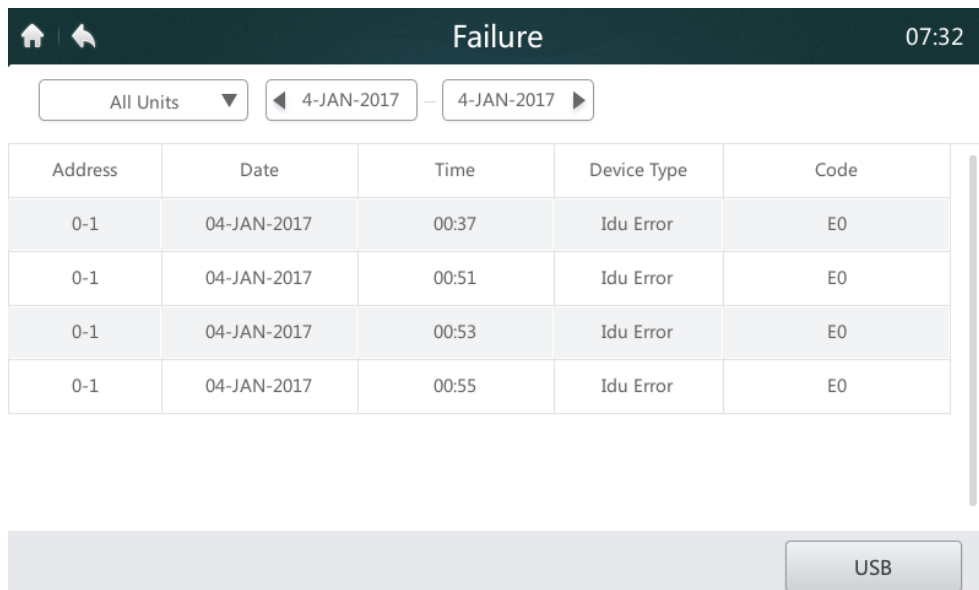

Figure 31 Homepage 2 of the Report page
- If there is a historical fault record in the system after the start date and end date are selected, the interface shown in Figure 31 will be displayed.
4. Insert the USB storage device and tap the "USB" button marked "1" in Figure 31. The fault data will be exported to the mobile device in "csv" format. The fault data content includes the address, date, time, model and error code (as shown in the above figure) to facilitate queries. The screen will display the success message after the data is exported successfully, as shown below.